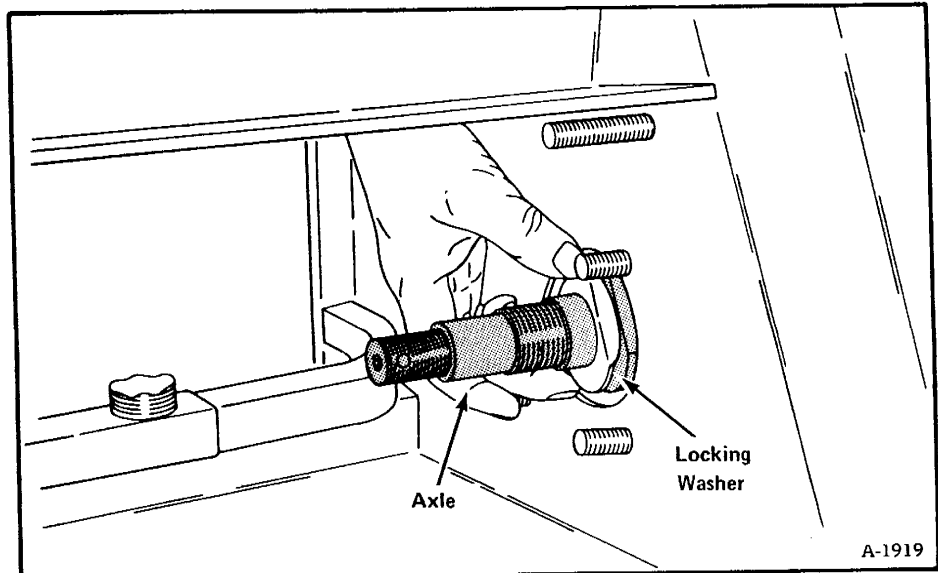

Fig. 4-37 Installing the Axle
(1) Put the sprocket into the housing so that the two flat areas on the hub are toward the inside of the loader.
(2) Install the axle in the machine and put the locking washer with one edge bent over one of the sprocket flat areas (Fig. 4-37).
(3) With the axle guide tool installed on the inside axle housing studs, install the axle nut.